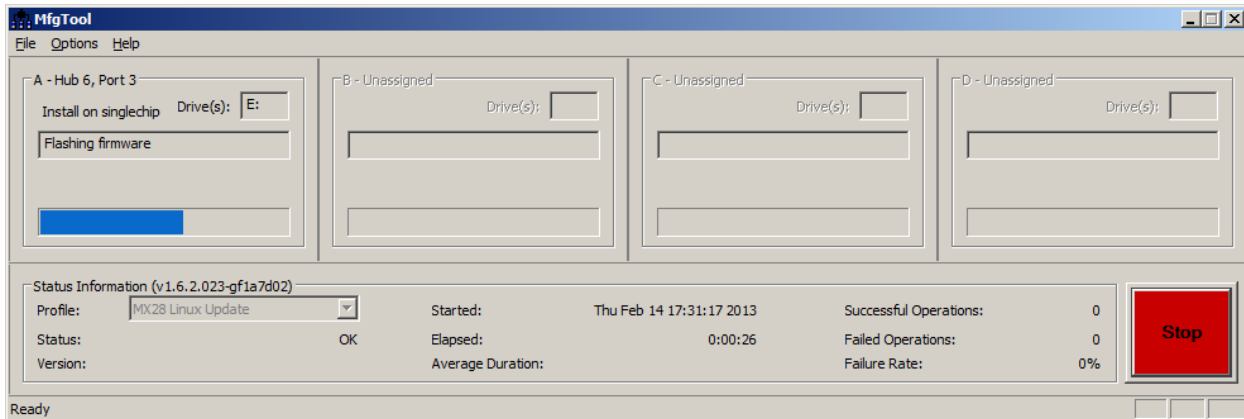

Figure 6-1. Programming NAND with Manufacturing Tool
10. Start the download process by pressing the green Start button. You will see the progress bar as well as the current task in the notification bar as shown in Figure 6-1. When you receive an “Update Complete” message in the notification bar, press the red Stop button to finish.